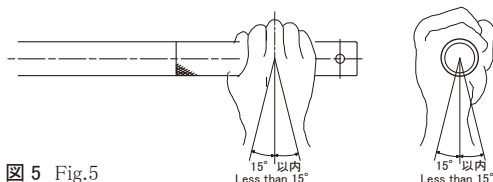

図 5 Fig.5
上下左右とも± 15° 以内にする。(図5)
- The loading direction must be at a right angle to the torque wrench. The tolerance is plus/minus 15 degrees of horizontal or vertical deviation. See fig.5.